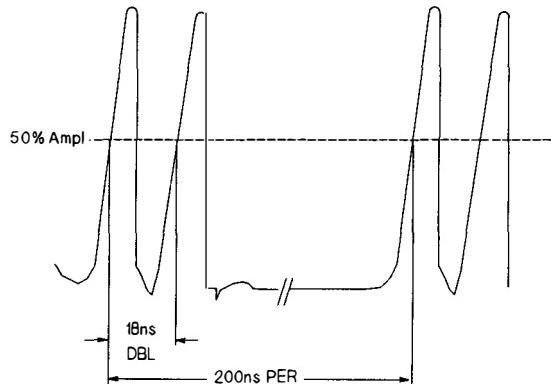

Figure 9-5. Double Pulse Adjustment
23. The typical **DELAY (DBL)** range characteristic is similar to that shown in Figure 9-5.
33. Press **[Autoscale]** and adjust A2R13 for 18 ns \pm 0.3 ns at 50% of amplitude. See Figure 9-5.
14. On the oscilloscope press **Autoscale** and adjust A2R8 for 10 ns \pm 0.2 ns at 50% of amplitude. See Figure 9-5.